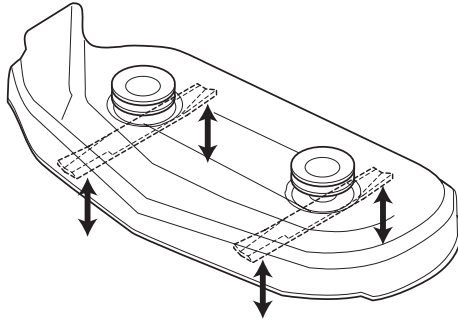

Figure 38. Orient Blades Front-to-Back
1. Turn the blades front-to-back as shown in Figure 38. Measure the distance from the ground to front tip of center blade, and from ground to rear tips of left hand and right hand blades (Figures 38). Front tips should be 1/8"-1/4" (3-6 mm) higher than rear tips. If not, proceed to step 2.